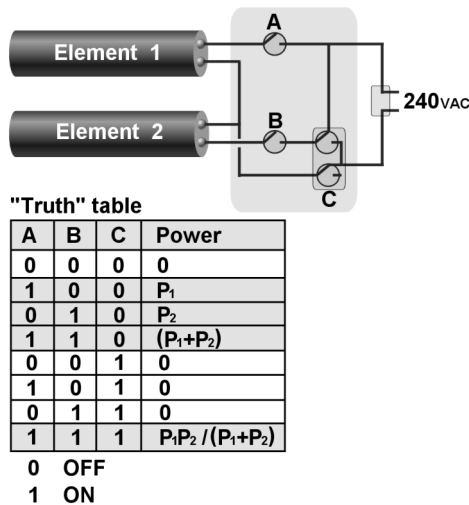

Fig. 7-12
The Truth Table in Fig. 7-12 describes the outputs you get when the switches of that example circuit (which happens to be the one we talk about later, and show in Fig. 7-14) are set in all possible ways. You can check that all possibilities have been covered by considering that if each switch can be either ON (1) or OFF (0), two ways, then there must be $2 \times 2 = 4$ ways of setting two switches together, $2 \times 2 \times 2 = 8$ ways for three switches, and so on.